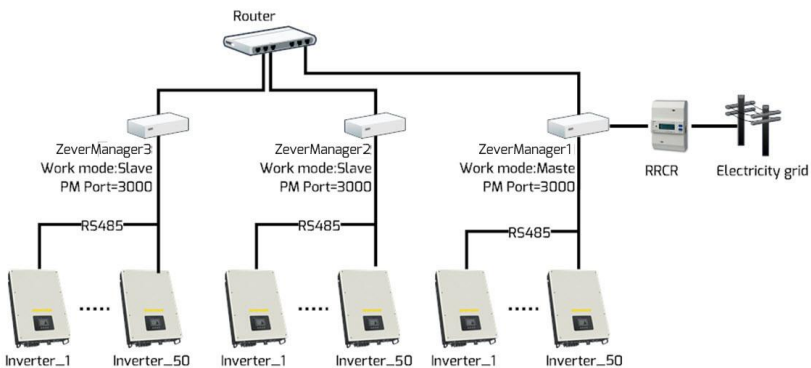

Fig. 6-9: Use ZeverManagers to achieve power control
Step 1: Set the ZeverManager that is connected to the RRCR to master mode (ZeverManager 1 shown in Fig. 6-9). Additional ZeverManager's should be set to slave mode (ZeverManager 2 and ZeverManager 3 shown in Fig. 6-9). The PM Port of each ZeverManager must be set to the same value. If the setup is successful, the ZeverManager will restart in 3 minutes.
After activating this function, the ZeverManager will send the power control instructions to the inverter and to the other slave ZeverManagers in the same network segment (ZeverManager 2 and ZeverManager 3 as shown in Fig. 6-9).